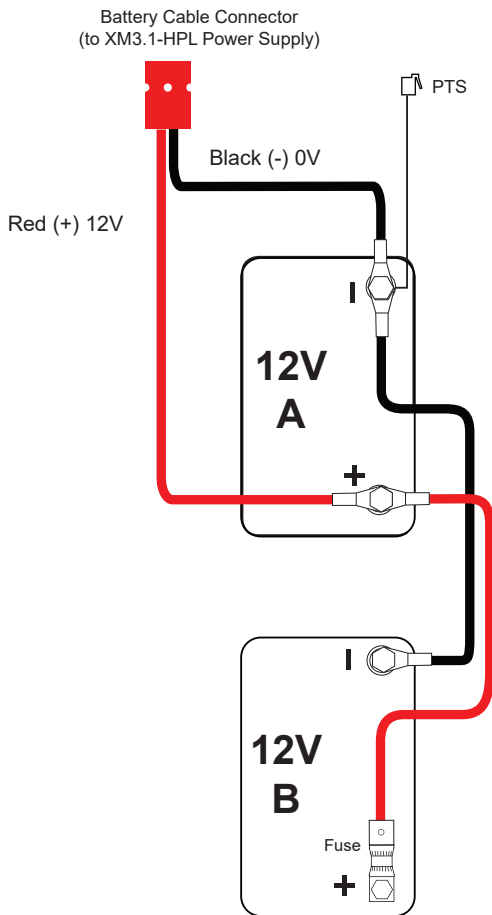

Fig. 3-8, 12VDC Battery String Wiring
1. Connect the battery strings, as shown in Fig. 3-8.
This section is for reference only. Follow instructions included with the battery cable kit. For XM3.1-HP (3 and 5 Amp models) power supplies, the Precision Temperature Sensor (PTS) connects to the negative terminal of the first battery (labeled A in Fig. 3-8).